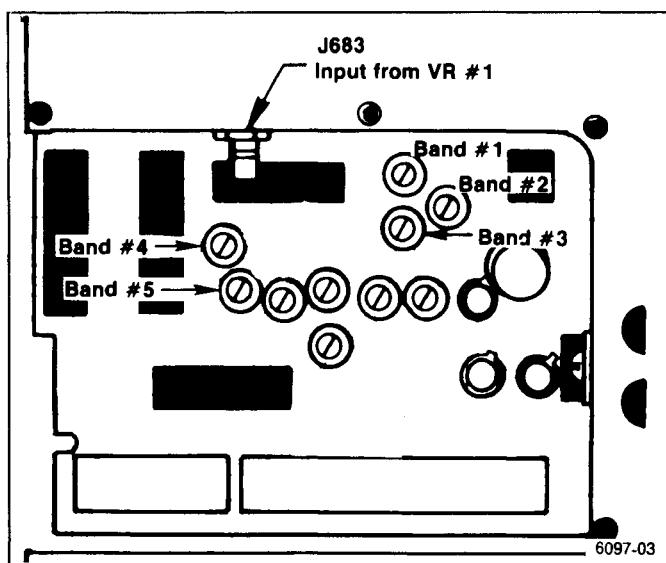

Figure 5-25. Band leveling adjustment and gain diode locations.
e. Adjust Band 2 Gain R3034 on the VR Mother board #2 (Figure 5-25) for a full screen (-20 dBm) display.
h. Adjust Band 3 Gain R3030 (Figure 5-25) for a full screen display.